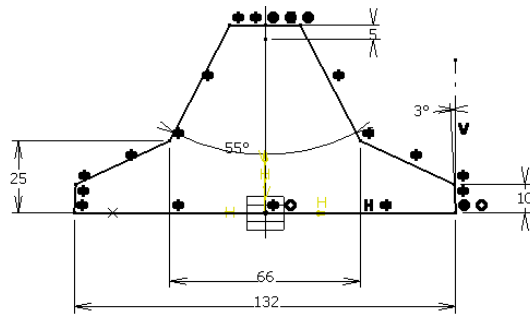

Figure 5-75 Sketch of the base feature
5. Invoke the **Sketcher** workbench after selecting the newly created plane as the sketching plane and draw the sketch, as shown in Figure 5-75.